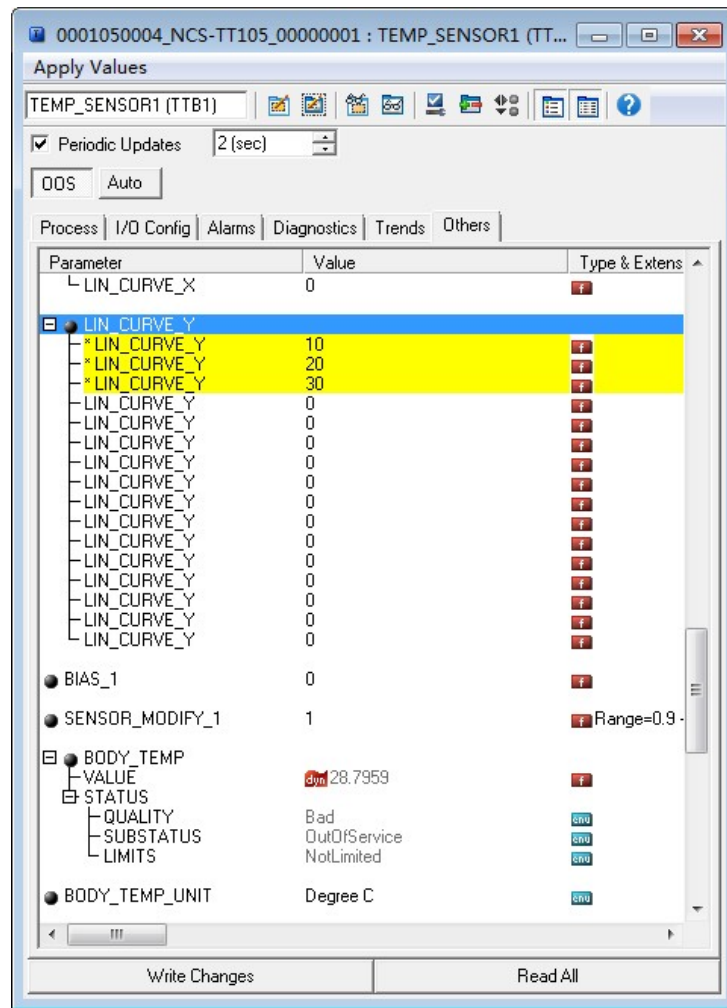

Figure 3.4 CAL\_POINT\_Y configuration
- 1) The smart temperature transmitter provides 16 calibration point inputs, that is, the parameter `CAL_POINT_Y` array of the transformation block. The user can sequentially write the output values to be calibrated into the array and select a good unit. For example, when performing three-point interpolation calibration, the user can select 10, 20, and 30 as the calibration points, and write these three values in the `CAL_POINT_Y` array in turn, as shown in Figure 3.4.